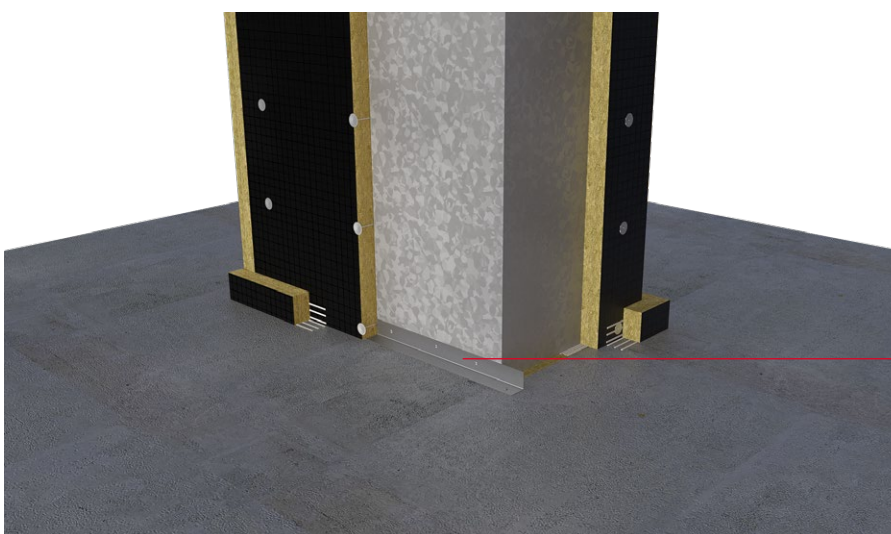

Figure 11b
2. Secure the duct to the floor structure using 4 no. 50 x 50 x 45 x 2.5mm galvanised steel angles to both sides of the aperture. The angles can be fixed using 2No 3.2 x 25mm self-tapping screws. Alternatively, the duct can be secured with a 40 x 40 x 3mm L profile as shown in Figure 11b. The length of the L profile should be equal to the width of the duct and installed to both sides (duct width).